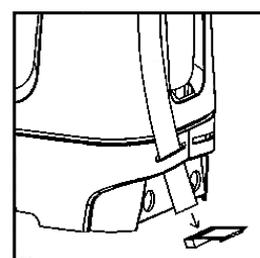

fig.4
- 4.1.5. Pass strap through the strap retainer (fig.4).